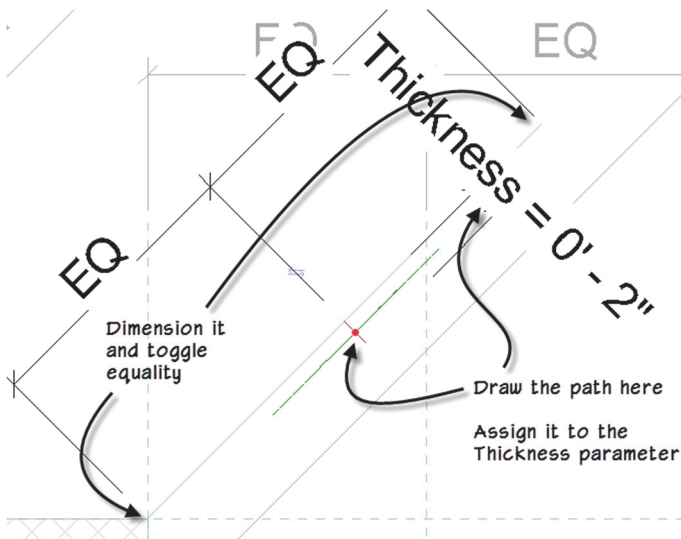

FIGURE 4.58
- ⇒ You can also add another dimension in the other direction from the endpoints of the reference line and toggle the equality (see Figure 4.58).